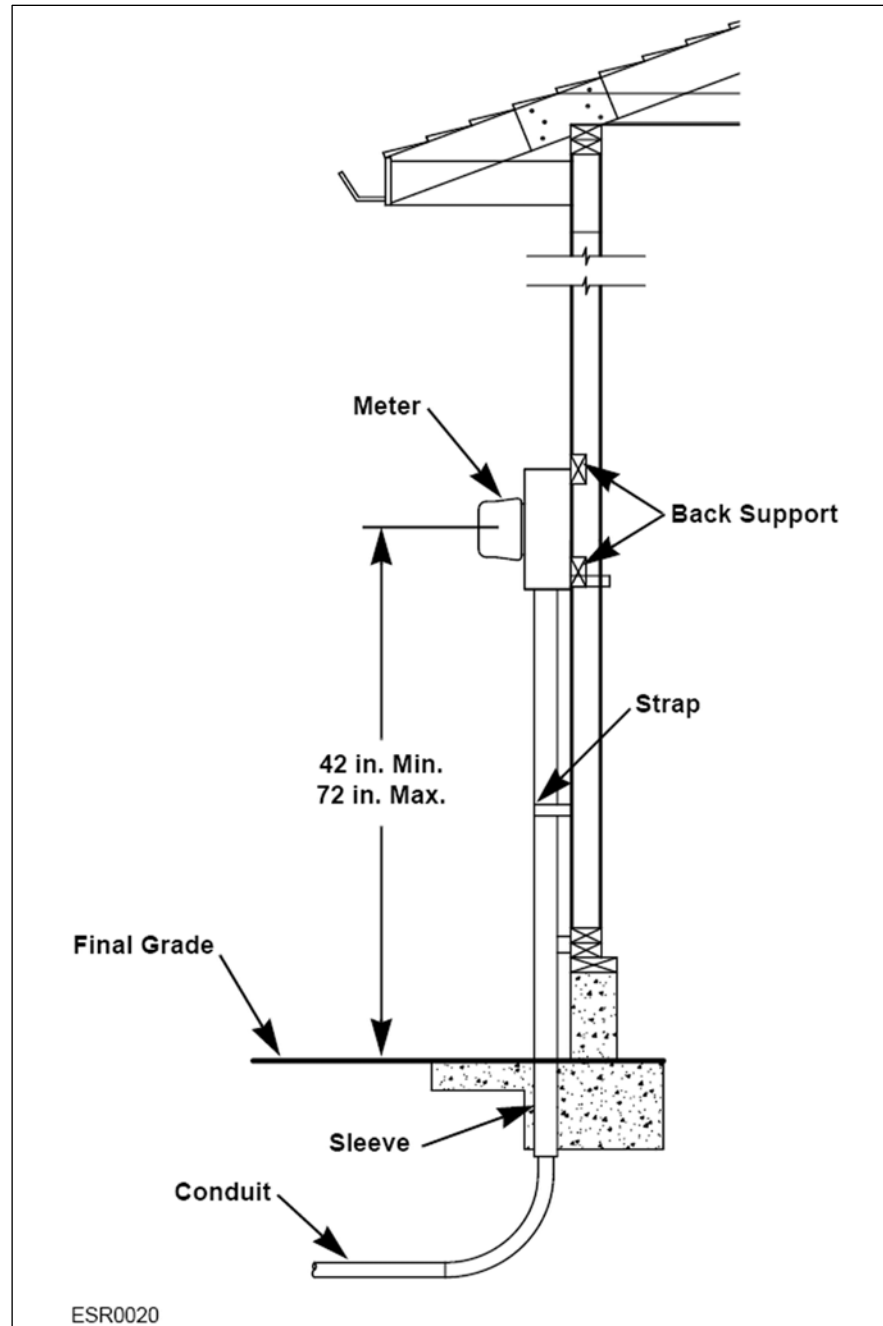
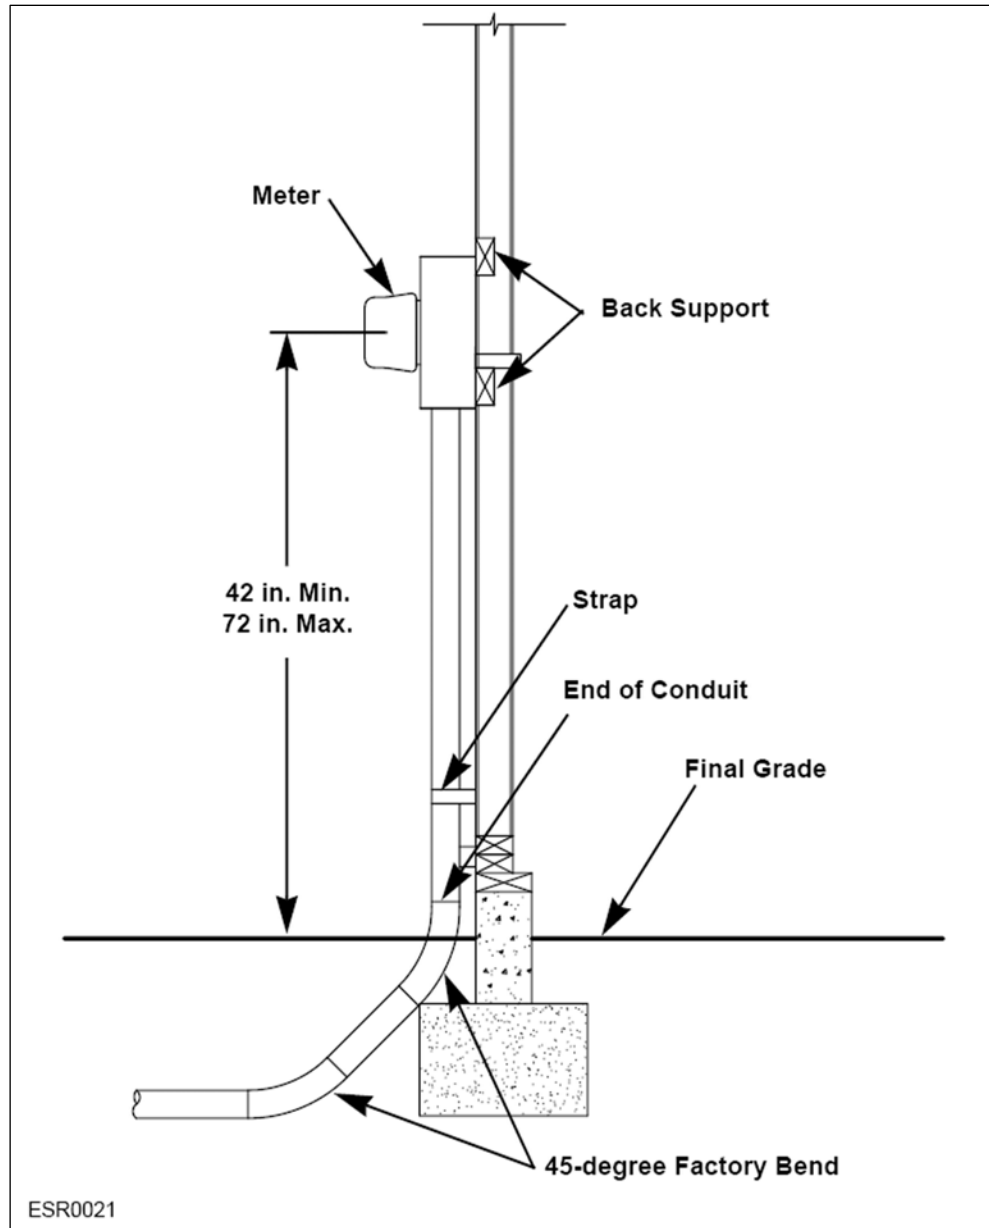
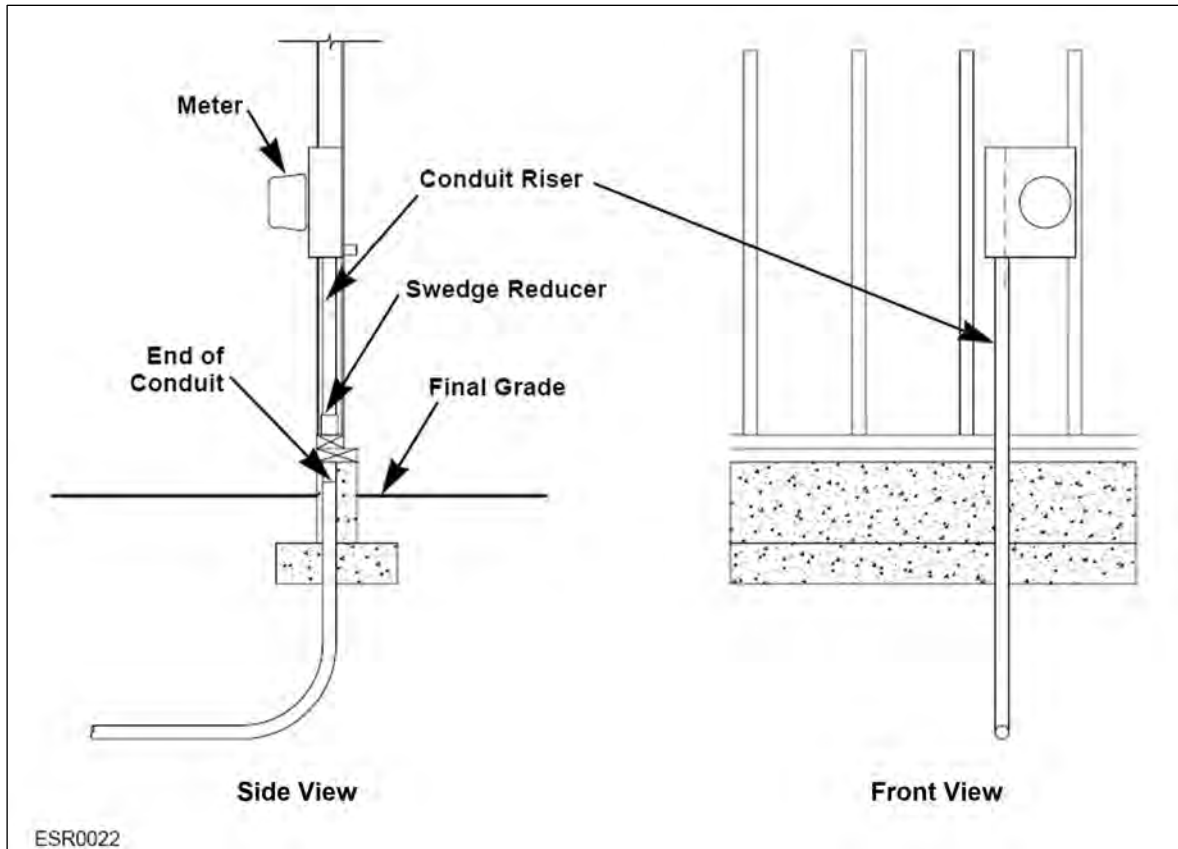

Figure 37: Surface-Mount Installation
Figure 38: Seismic Footing Design
Figure 39: Flush-Mount Installation
Figure 37 shows a surface-mount installation, and **Figure 38** shows the optional seismic footing design. **Figure 39** shows a flush-mount installation.
- The meter socket and conduit must be rigidly attached to the structure as shown in **Figure 37**. 2- x 4-inch back supports are required. The meter socket and conduit must be plumb when inspected. PGE will determine the exact location of the meter.
- No bends are allowed in the conduit riser between the meter socket and the underground sweep. If local codes do not allow conduit in the foundation or footing, a surface-mount meter must be installed. See **Figure 37**.
These requirements apply to a surface-mount installation such as the one shown in **Figure 37** and to the optional seismic footing design shown in **Figure 38**:
These requirements apply to a flush-mount installation, such as the one shown in **Figure 39**:
- No bends are allowed in the conduit riser between the meter socket and the underground sweep. **Figure 39** shows an installation with conduit in the foundation and footing.